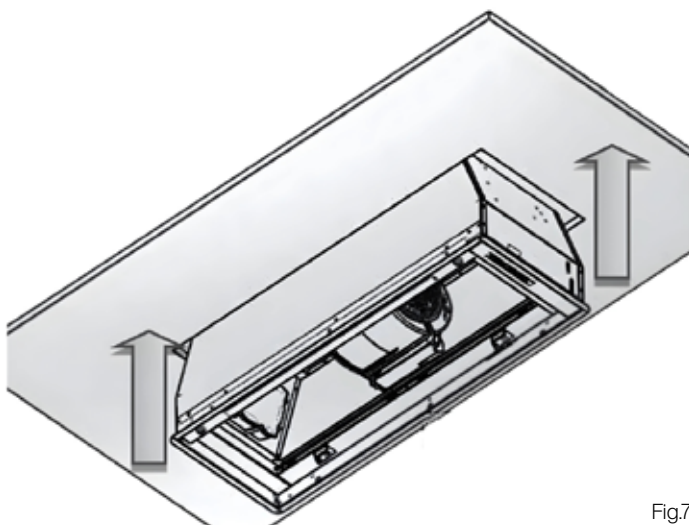

Fig.7
2. Insert the rangehood into the cutout made in the cabinet until the stop click of the side-springs is heard and the rangehood is supported. (Fig.7)